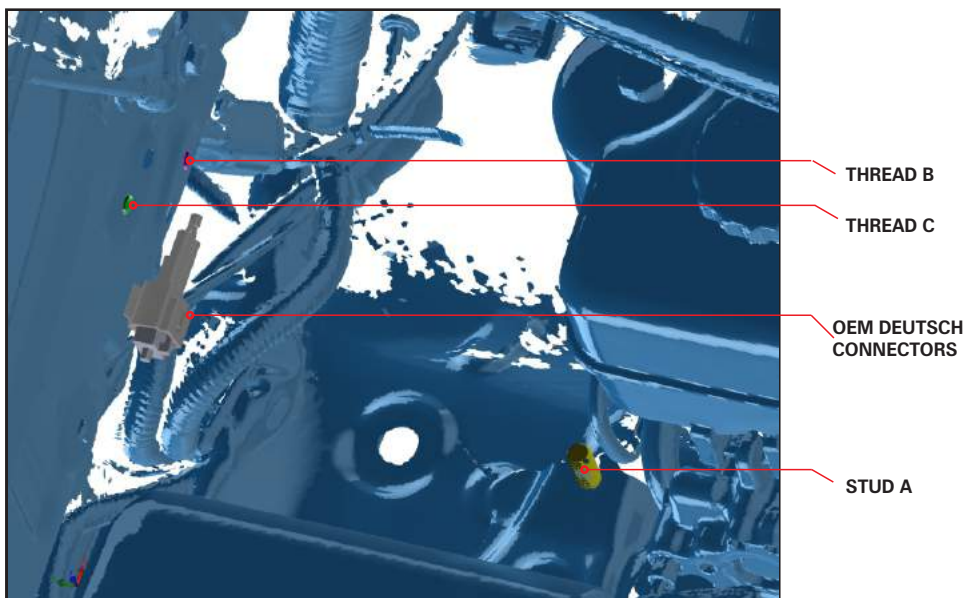

FIG. 7A CATCHCAN BRACKET INSTALLATION AREA
2. Referring to FIG. 7A Locate Stud A in drivers side rear corner of the engine bay.